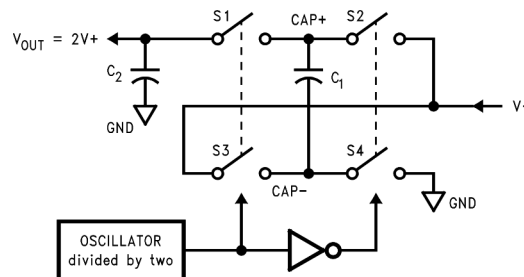

Figure 10. Voltage Doubling Principle
The LM2665 contains four large CMOS switches which are switched in a sequence to double the input supply voltage. Energy transfer and storage are provided by external capacitors. Figure 10 illustrates the voltage conversion scheme. When S_2 and S_4 are closed, C_1 charges to the supply voltage V_+ . During this time interval, switches S_1 and S_3 are open. In the next time interval, S_2 and S_4 are open; at the same time, S_1 and S_3 are closed, the sum of the input voltage V_+ and the voltage across C_1 gives the $2 \cdot V_+$ output voltage when there is no load. The output voltage drop when a load is added is determined by the parasitic resistance ($R_{DS(on)}$ of the MOSFET switches and the ESR of the capacitors) and the charge transfer loss between capacitors. Details are discussed in Application and Implementation.
- R_{SW} is the sum of the ON resistance of the internal MOSFET switches shown in Figure 10. (1)